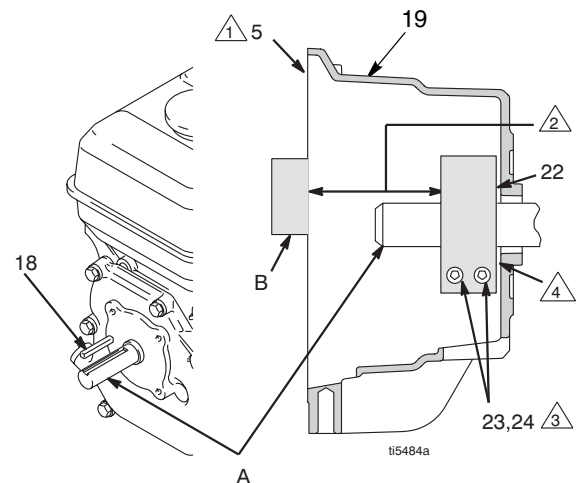

FIG. 10
4. FIG. 10. Loosen two screws (24) on clamp (22),
5. Push screwdriver into slot in clamp (22) and remove clamp.
1. FIG. 10. Install engine shaft key (18)
2. Tap clamp (22) onto engine shaft (A). Maintain dimension shown note 2. Chamfer must face engine.
3. Check dimension: Place rigid, straight steel bar (B) across face of clutch housing (19). Use accurate measuring device to measure distance between bar and face of clamp. Adjust clamp as necessary. Torque two screws (24) to 125 ±10 in-lb (14 ±1.1 N·m)
4. Install armature (25) on engine drive shaft.
5. Install four screws (23) and lock washers (24) with torque of 125 in-lb.